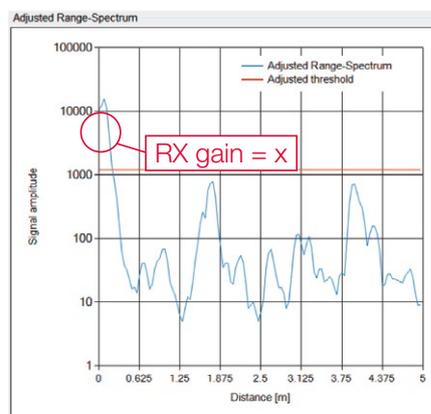
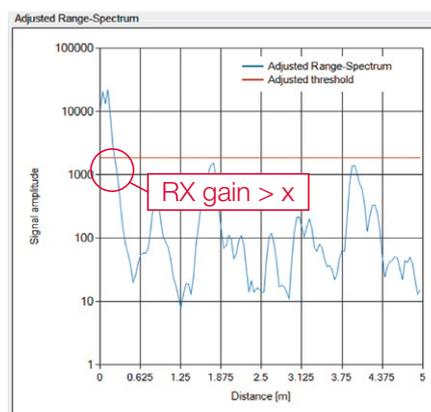

Figure 11: Peak is still peak
Figure 12: Peak gets valley
- The «RARD Adjusted Range Spectrum» must be checked for overflows. Due to fix and fast FFT calculations, the dynamic range is limited. When changing from one gain to the next higher gain, all signals should only rise by the same amount. By an overflow, a peak changes into a valley, as seen by the comparison of Figure 11 and Figure 12.